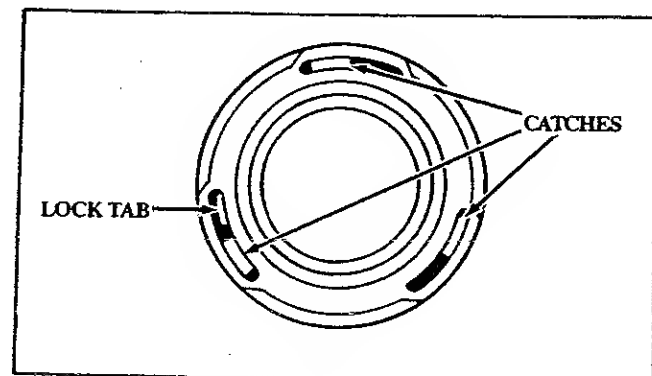

Figure 19
- Check to make sure all three Catches and the Lock Tab are properly fastened (as shown in Figure 19) by attempting to turn the Lock Ring counterclockwise ← and pulling on it. Then test the Lock Ring by trying to turn it counterclockwise ←.